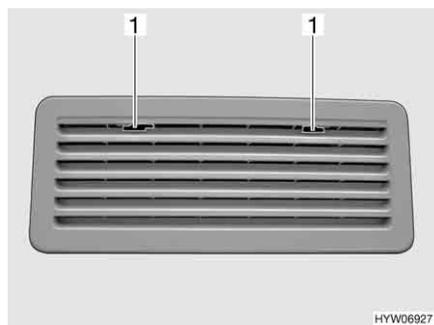

Fig. 169 Refrigerator ventilation grill (Thetford)
- Move the locking device (Fig. 169,1) to the middle.